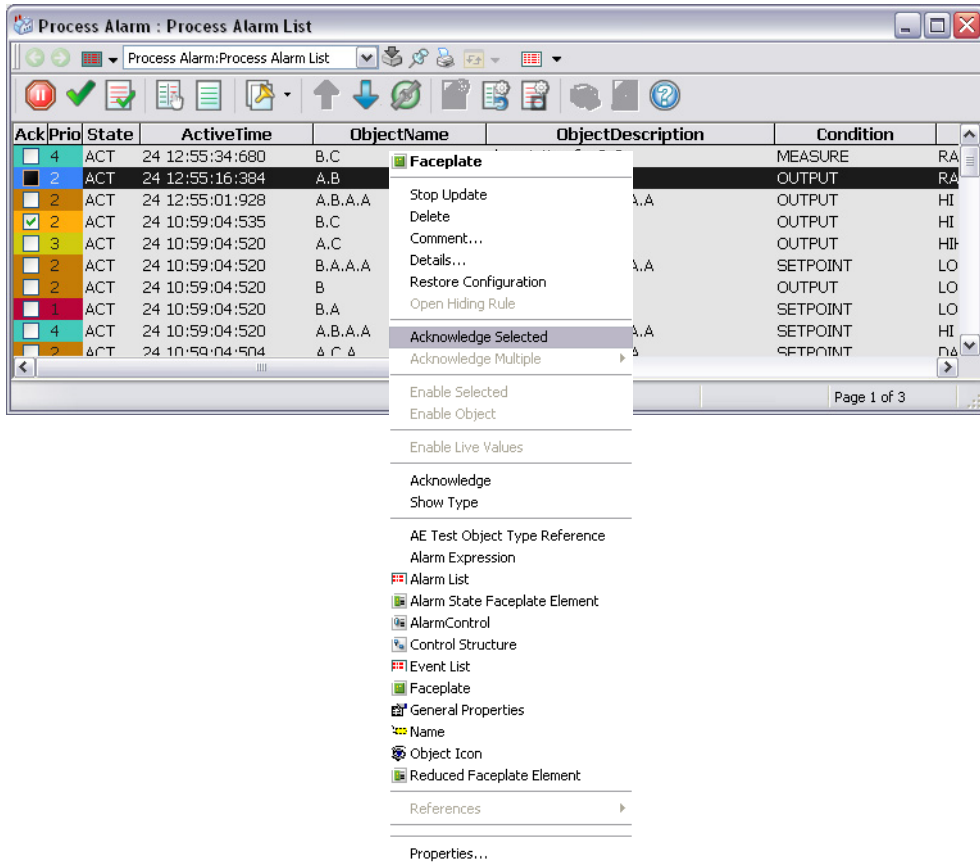

Figure 80. Context Menu for a Process Alarm
**Context Menu.** Right-click on an alarm to bring up the context menu where you can perform some actions on this alarm line, see Figure 80.